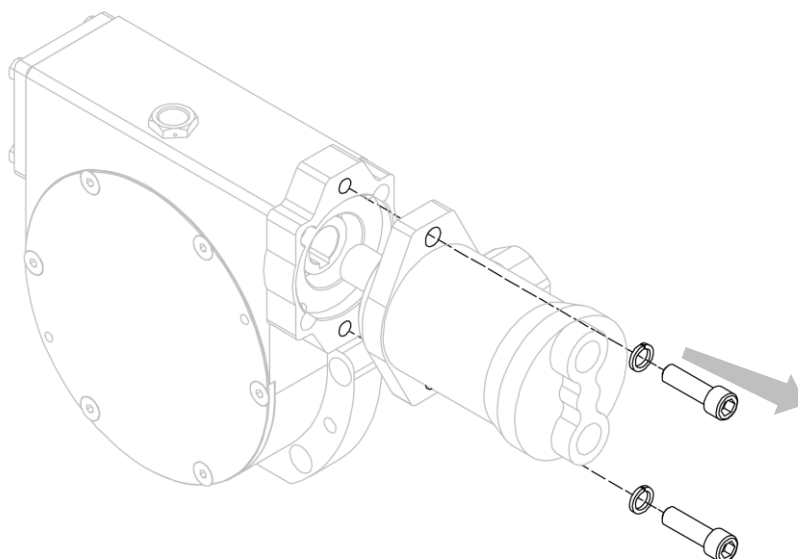

Figure 24
4. Separate the motor from the gearbox, after having removed the bolts that secure it (see *Figure 24*).